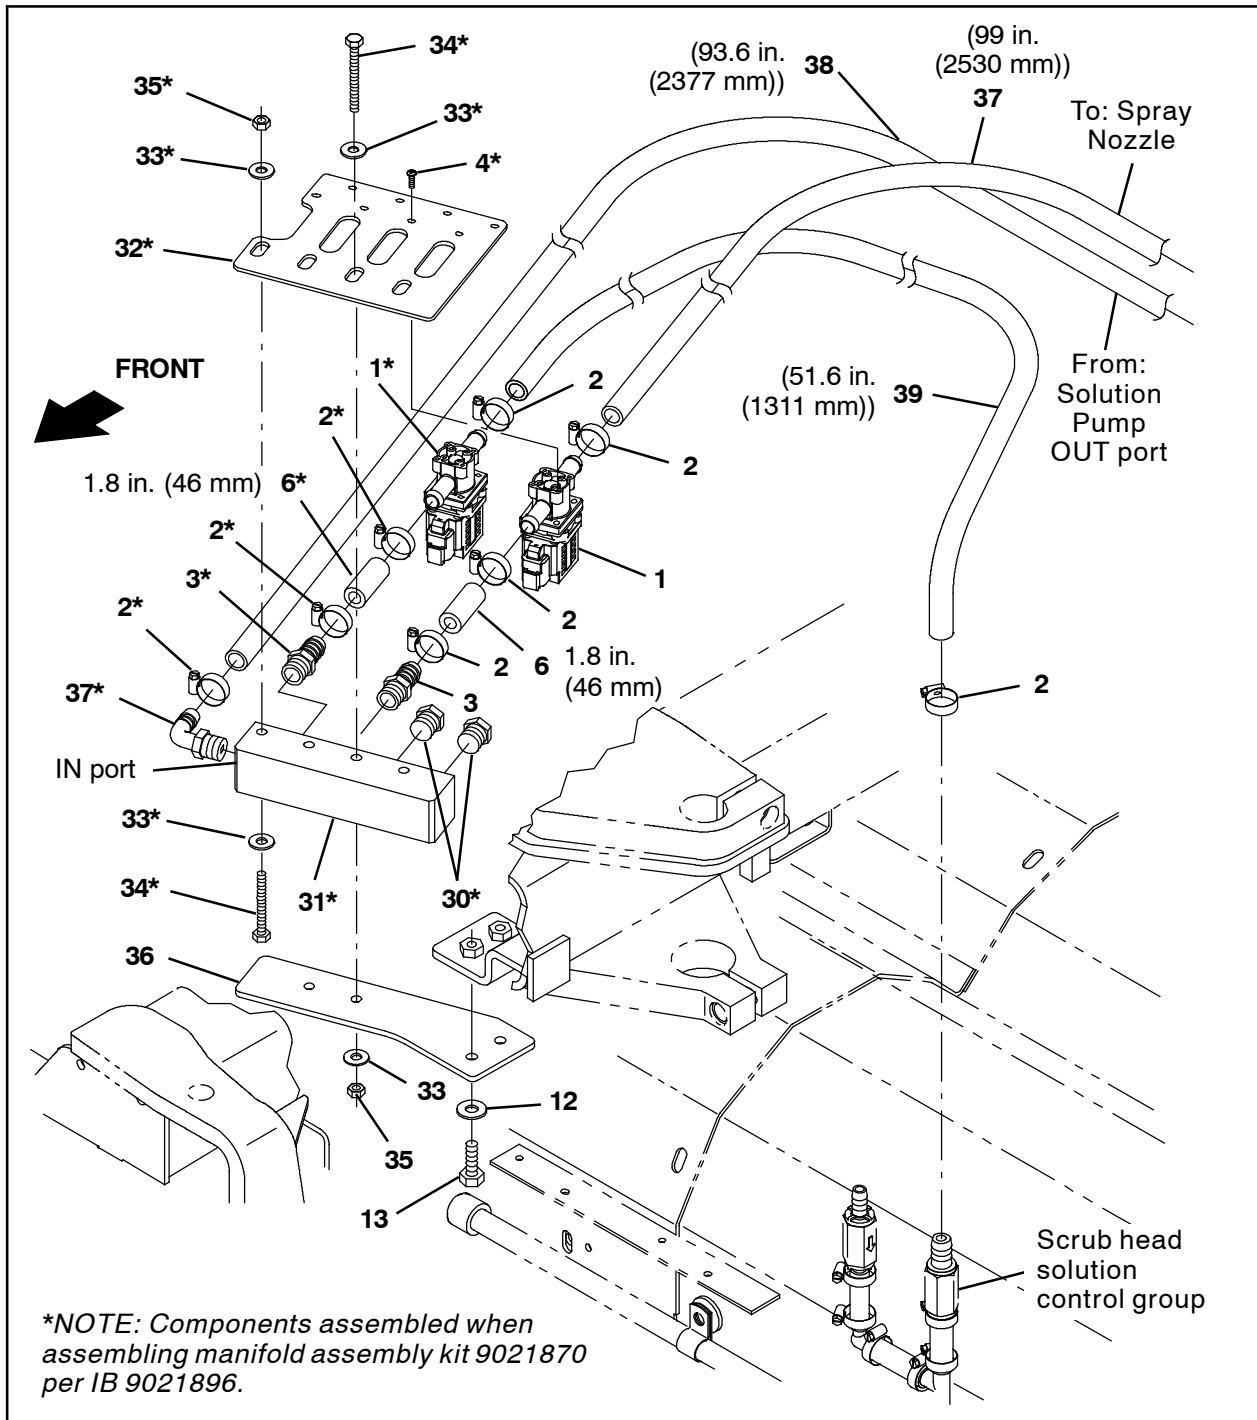
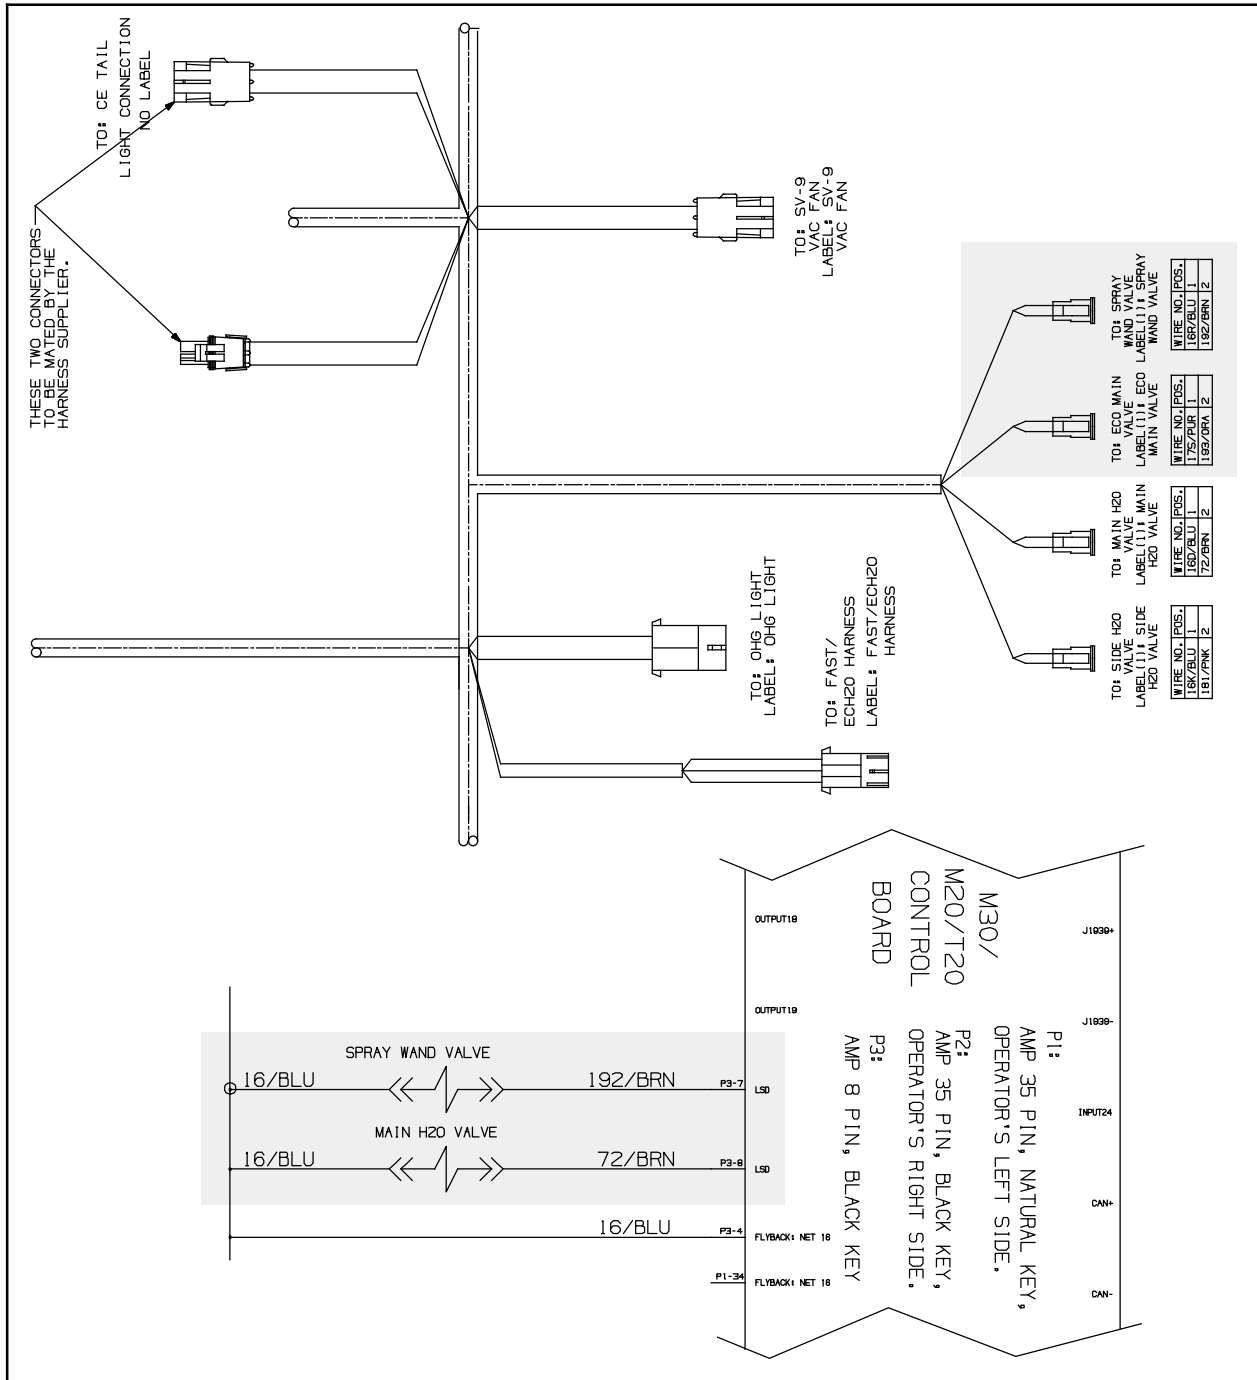

FIG. 8
FIG. 9
22. Assemble the manifold assembly (kit number 9021870) and applicable parts (1)/(2)/(3)/(4)/(6)/(33)/(35)/(36) from this kit onto the manifold assembly per IB 9021896. (Fig. 8)
23. Use two M8 hex screws (13) and two flat washers (12) to install the manifold bracket (36)/manifold assembly onto the frame of the machine. (Fig. 8)
24. Use a hose clamp (2) to install the 93.6 in. (2377 mm) PVC hose (38) onto the solution pump OUT port. (Fig. 8)
25. Route the 93.6 in. (2377 mm) PVC hose (38) to the manifold assembly and use a hose clamp (2) to connect the 93.6 in. (2377 mm) PVC hose to the plastic elbow fitting (37) in the manifold assembly IN port. (Fig. 8)
26. Use a hose clamp (2) to connect the 51.6 in. (1311 mm) PVC hose (39) to the scrub head solution control group. (Fig. 8)
27. Route the 51.6 in. (1311 mm) PVC hose (39) to the manifold assembly and use a hose clamp (2) to connect the 51.6 in. (1311 mm) PVC hose to the water solenoid valve (1) in the MAIN port. (Fig. 8)
28. Route the 99 in. (2530 mm) PVC hose (37) to the manifold assembly and use a hose clamp (2) to connect the 51.6 in. (1311 mm) PVC hose to the water solenoid valve (1) in the SPRAY HOSE port. (Fig. 8)
29. Connect the main wire harness to the water solenoid valve (1) in the manifold assembly MAIN port and the water solenoid valve (1) in the manifold assembly SPRAY HOSE port. (Fig. 8/Fig. 9)